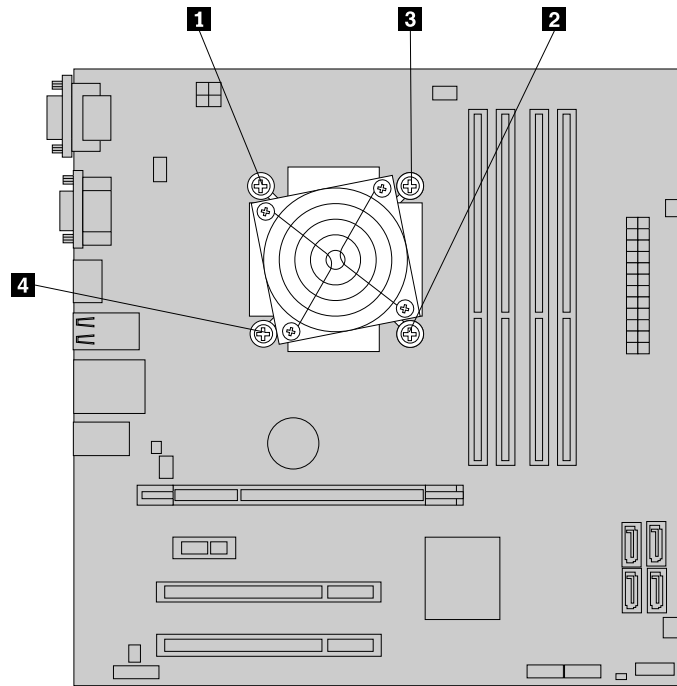

Figure 23. Removing the heat sink and fan assembly
9. Follow this sequence to install the four screws to secure the heat sink and fan assembly, as shown in Removing the heat sink and fan assembly Figure 23 on page 45.